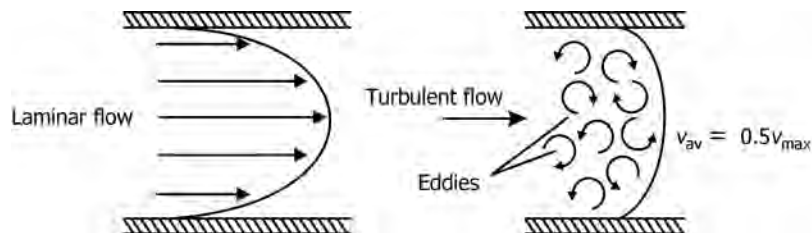

FIGURE 2.2 Velocity profiles for laminar and turbulent flows.
- Figure 2.2 illustrates the velocity profiles for laminar and turbulent flows.